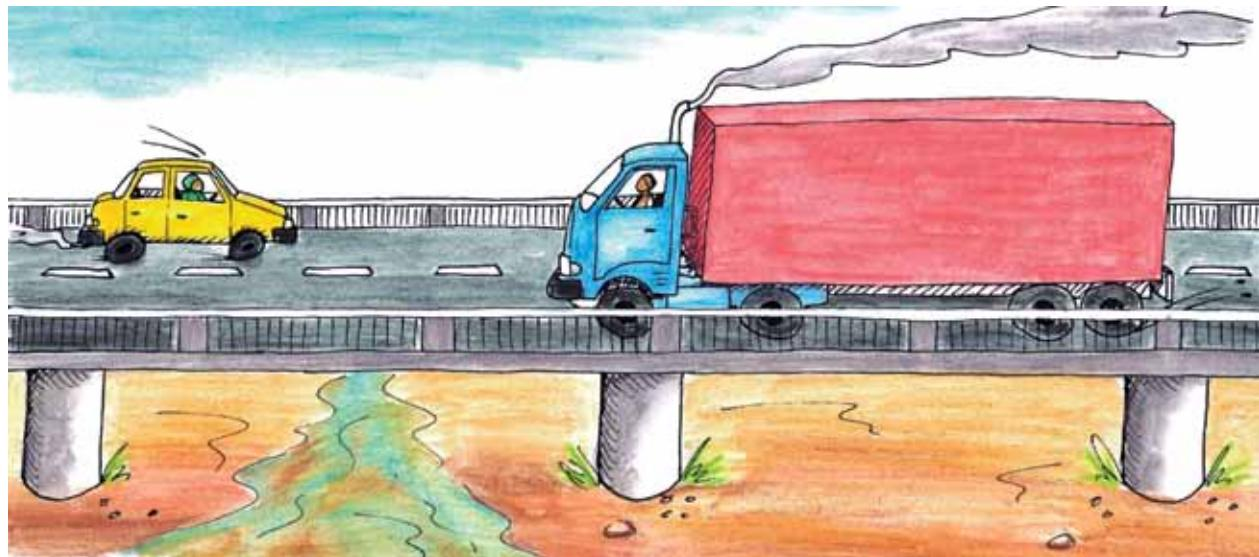

Figure 7: Vehicles passing over a bridge.
- (c) Are the loads on the bridge in Figure 7 always in the same place? Why do you say so?